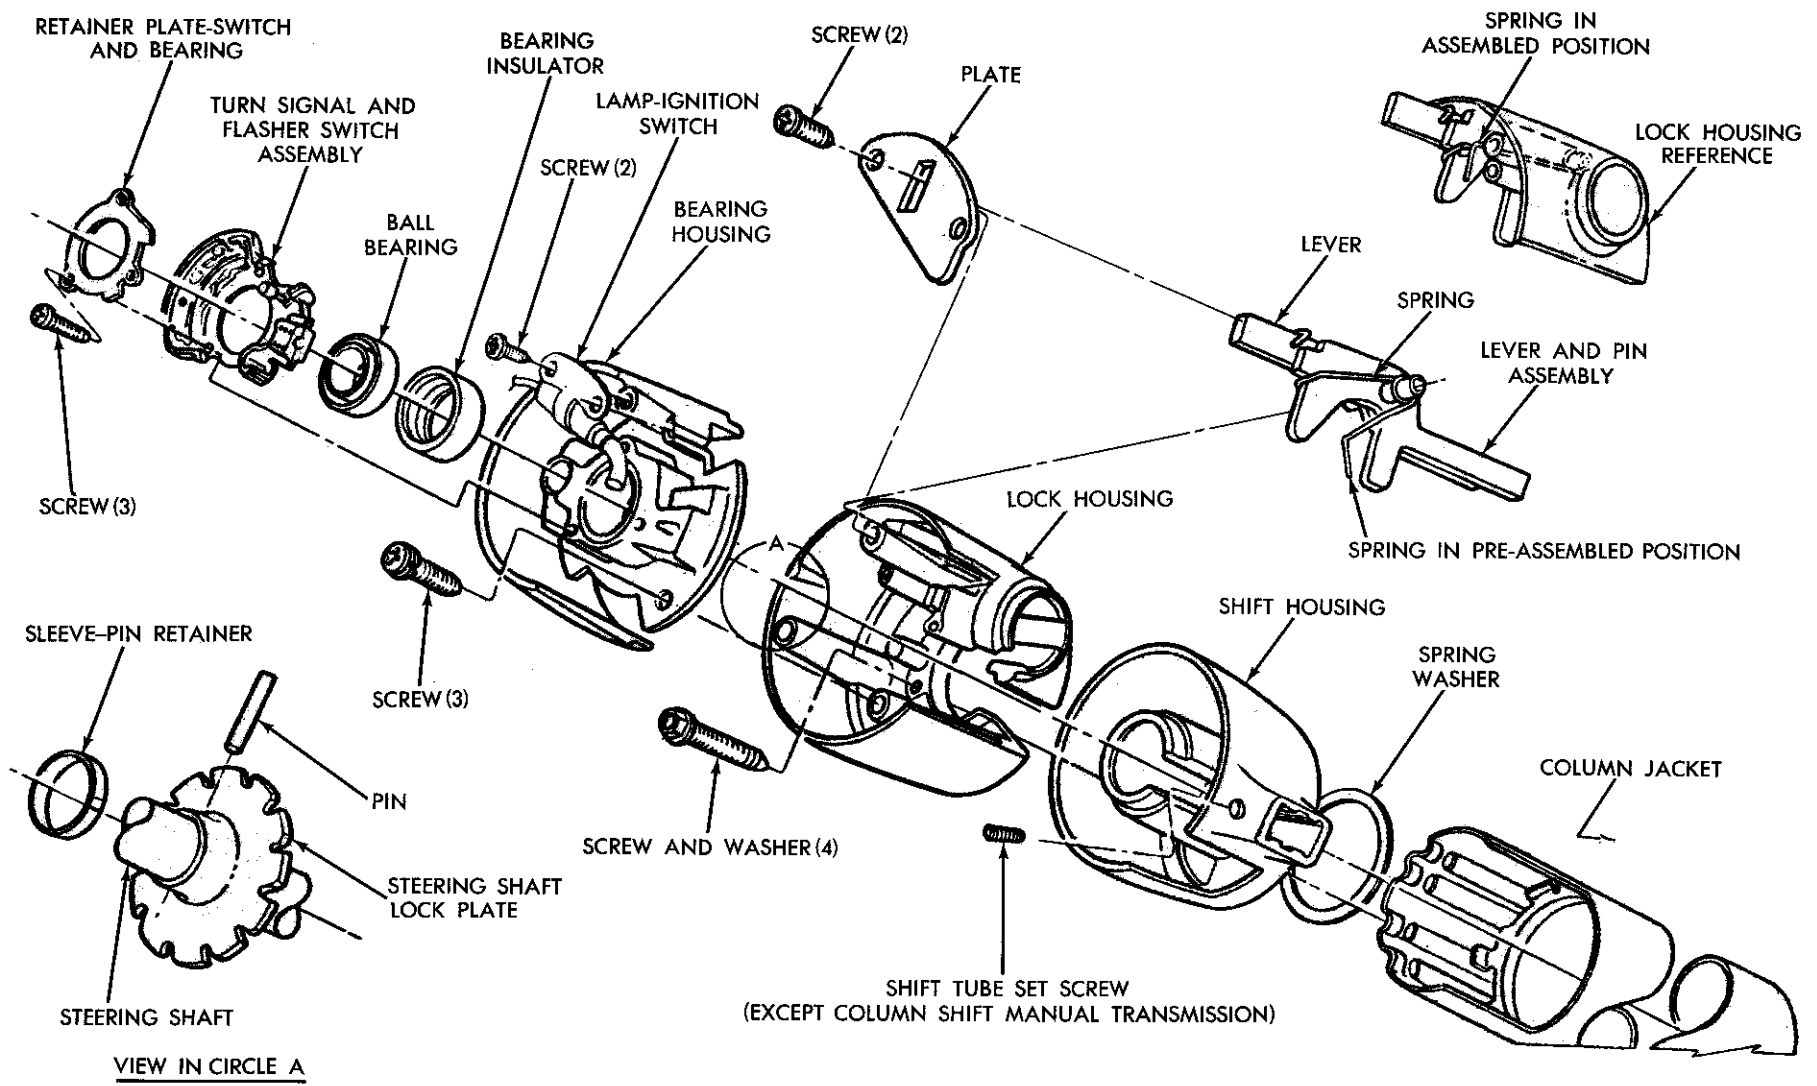

Fig. 21—Steering Column Upper End—Disassembled
COLUMN ASSEMBLY (Fig. 21)
(1) Install column holding tool C-4132 and clamp column in a vise with both ends of column accessible.
(2) Install the O-ring retainer, O-ring, and floor plate on lower end of column jacket. **This must be done before installing shift tube.**
(3) Coat spring washer with grease and install on lower hub of gearshift housing. Position gearshift housing on the jacket (Fig. 21).
- (4) **Column Shift Automatics and Floor Shift Models**
Bearing Housing Assembly (Fig. 21)